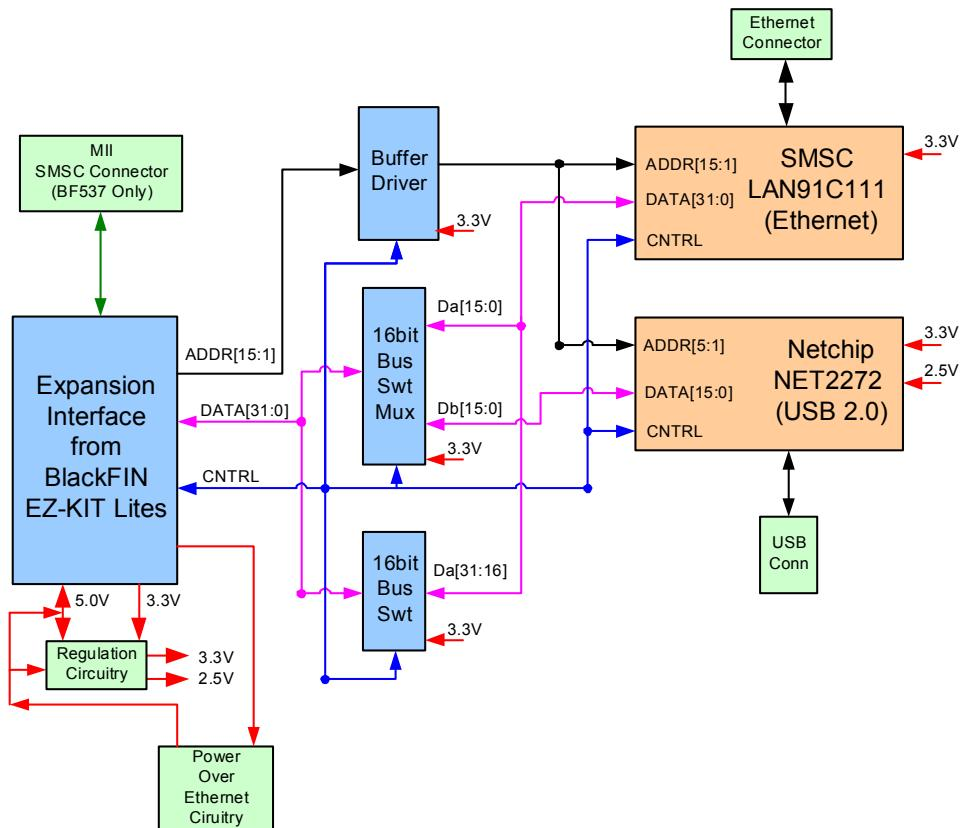

Figure 2-1. Block Diagram
4. Set the switches and jumpers on the USB-LAN EZ-Extender board. Use the block diagram in Figure 2-1 on page 2-2 in conjunction with “Jumper Setting” on page 2-3 and “Switch Settings” on page 2-6.
A block diagram of the Blackfin USB-LAN EZ-Extender is shown in Figure 2-1.